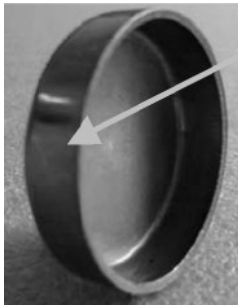

Figure 2 - Freeze Plug. Make sure this surface is clean and free of nicks. Apply Loctite here.
2. The inner bore is where the Freeze Plug (2) will be pressed into to maintain engine oil pressure. Make sure that the outer surface of the Freeze Plug is clean and free of any nicks or burrs. See Figure 2.